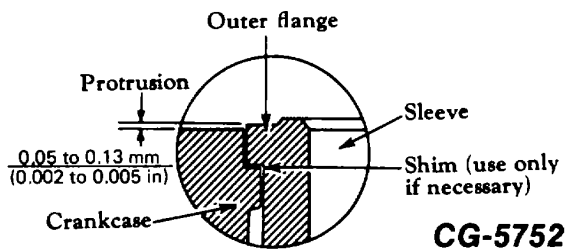

Figure 32. - Shim Placement
- b. Use one of the hardened washers under each cap screw. Space the bolts to obtain uniform pressure on the sleeve flange as shown in Fig. 32. Torque the bolts in three stages: 55 N•m (40 lbf-ft), 1 10 N•m (80 lbf-ft) and 165 N•m (1 20 lb. ft).
- b. Install the shim (if necessary) in the counterbore as shown in Fig. 32.